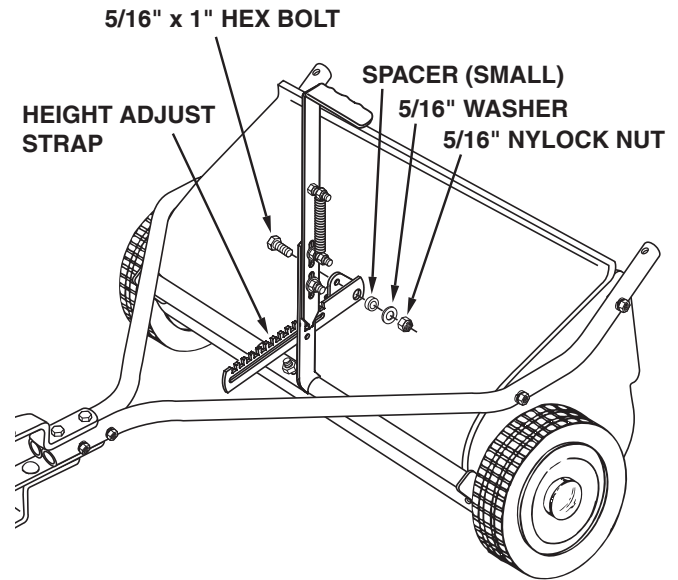

FIGURE 10
21. Place the height adjust strap between the angle bracket and the height adjustment handle. Attach the height adjust strap to the angle bracket using a 5/16" x 1" hex bolt, the small spacer, a 5/16" washer and a 5/16" nylock nut. Tighten. See figure 10.